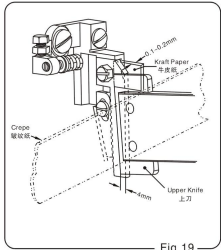

Fig.19
- Move the upper blade down to make it closed to the lower blade. The clearance of the blade back is 0.1 to 0.2 MM (Fig.19). Between upper blade and lower blade should be able to insert or pull out a krafe paper smoothly.
- After the adjustment by steps a), b), cut a crepe tape or thread for test. If the front end of the cutter cuts but the rear end does not, there is a gap on the rear side. In this case, loosen the nut by anti-clockwise screw ⑥ by 1/8 turn, and cut the thread again for test. If it still does not cut, loosen the screw ④ by another 1/8 turn and repeat this adjustment and test until the thread can be cut, and then retighten the nut ⑥ screw ⑥. If the rear end of cutter cuts but the front end does not cut, the adjustment by step a) is insufficient. Then make readjustment of the rear side so that the gap between both the blades becomes 0.1 to 0.2mm. Here adjust the upper and lower blades so that they are in contact with each other on the front side. If the lower blade tends to turn away without cutting, increase the pressure of the spring by turning the screw ⑥ clockwise (Fig.19).
- Adjust the overlapped depth of the upper and lower blades by changing the length of air cylinder rod end so that the distance between the upper face of the lower blade and the rear side of the upper blade becomes 4mm, as shown in Fig.19.